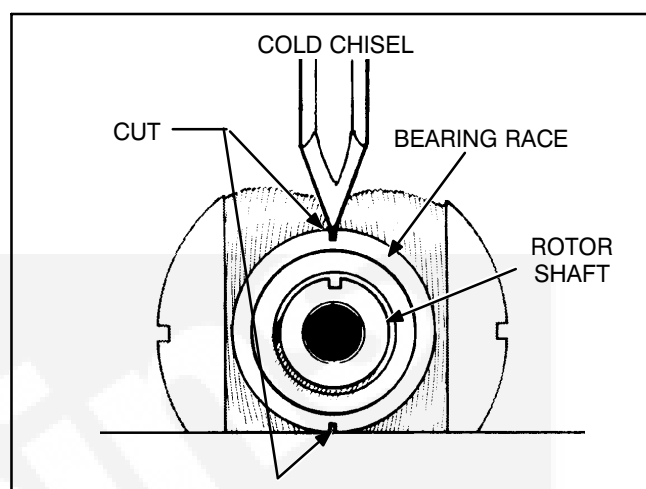

FIGURE 9-12. ROTOR BEARING REMOVAL
3. If a suitable puller is not available, wrap the collector ring with a cloth for protection and cut off the outer race of the bearing using a small hand grinder with a cutting wheel. Be careful to avoid cutting the collector ring assembly. Remove the bearings and make two cuts approximately halfway through the inner race 180° apart. See Figure 9-12. Place rotor with one cut face down on a hard surface and center a cold chisel on the other cut and strike to split apart. Be careful not to damage the rotor shaft. The bearing casing is made of hardened steel that can shatter into small pieces. Use protective eye wear and clothing to protect yourself from injury when striking the bearing casing.